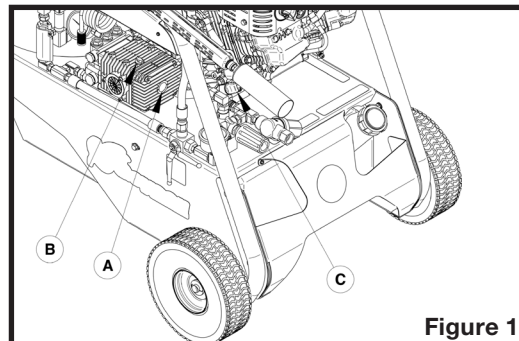

Figure 1
3. Check the oil level of the engine. Engine must be in a level position. Remove the oil filler cap/dipstick (C on figure 1). Oil level should be at bottom edge of the oil fill hole.